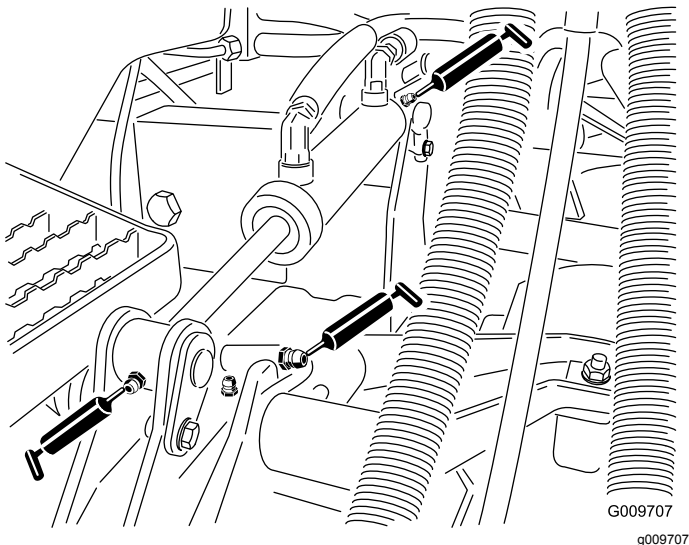

Figure 29
- Lift-arm bushings (1 per deck) (Figure 29)
- Lift-cylinder bushings (2 per deck) (Figure 29)